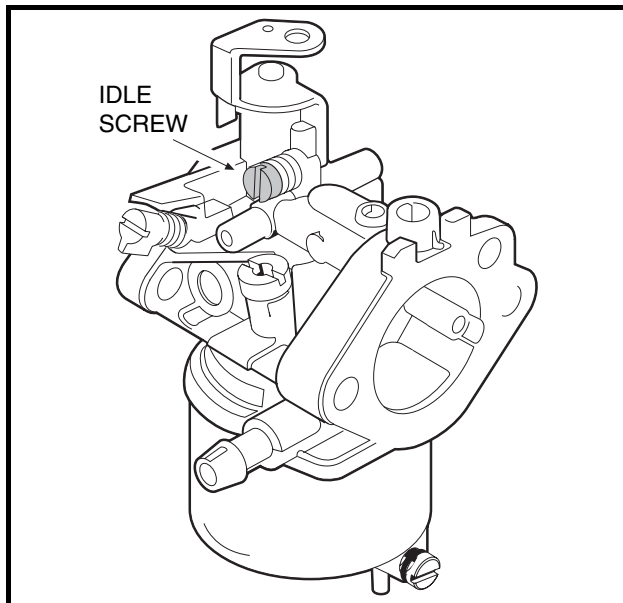

Figure 14-8 Idle Screw
1. Loosen the carburetor idle screw so that it is not touching the throttle lever (**Figure 14-8, Page 14-11**).